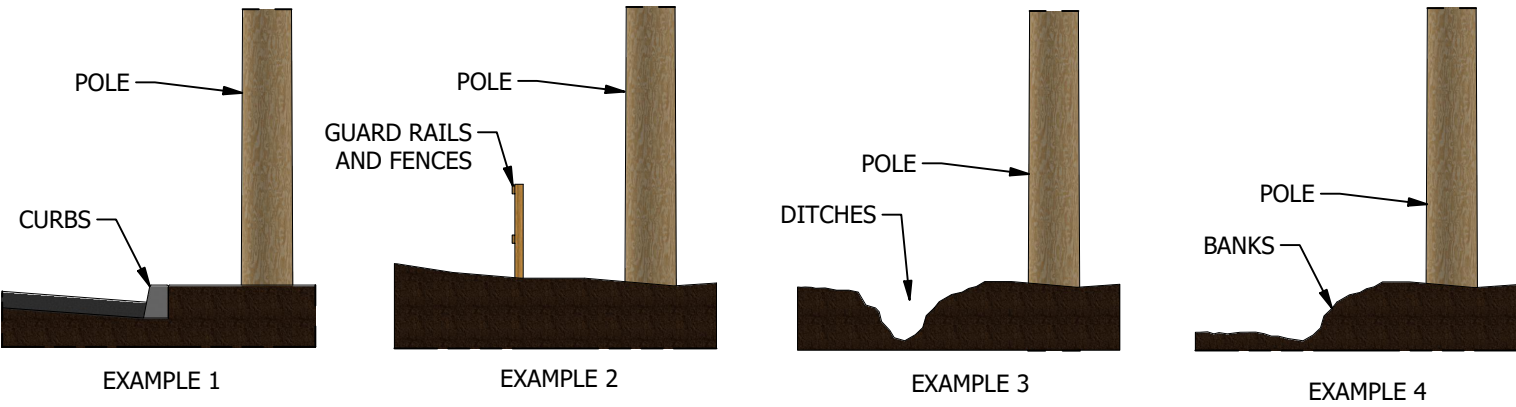

FIGURE 4
* DELINEATORS ARE REQUIRED ON ALL POLES ON STATE HIGHWAYS WITH THE FOLLOWING EXCEPTION: DELINEATORS ARE NOT REQUIRED ON POLES THAT DO NOT PRESENT A POSSIBLE TRAFFIC HAZARD (SEE FIGURE 4) AND MAY BE EXEMPTED UPON APPROVAL OF A WRITTEN REQUEST SUBMITTED WITH THE REQUEST FOR THE ENCROACHMENT PERMIT TO THE DIVISION OF HIGHWAYS, STATE OF CALIFORNIA.(a)